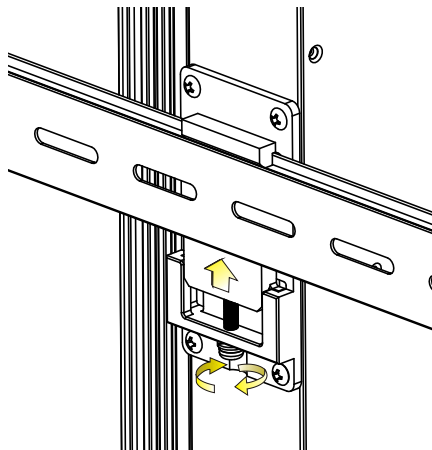

Figure 3-19: Secure the Mounting Bracket
Step 4: Use a screwdriver to rotate the screw of the mounting bracket until the small metal block can firmly secure the system to the DIN rail. (**Figure 3-19**).